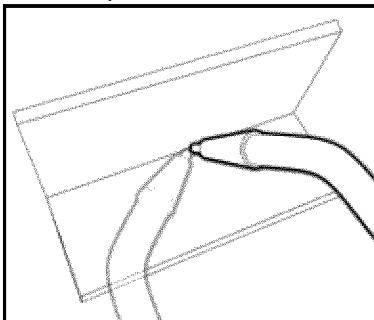

Fig. 10b
- Angle B (Fig. 10b) is the angle of the torch in relation to your travel direction. Varying this angle can help the operator to see the arc and the weld bead position. It will also increase or decrease penetration. By rotating the contact tip and nozzle in the direction you will travel, it will help decrease penetration by deflecting the force of the arc. By rotating the contact tip and nozzle in the opposite direction that you intend to travel, it will increase penetration by directing the force of the arc into the weld puddle.